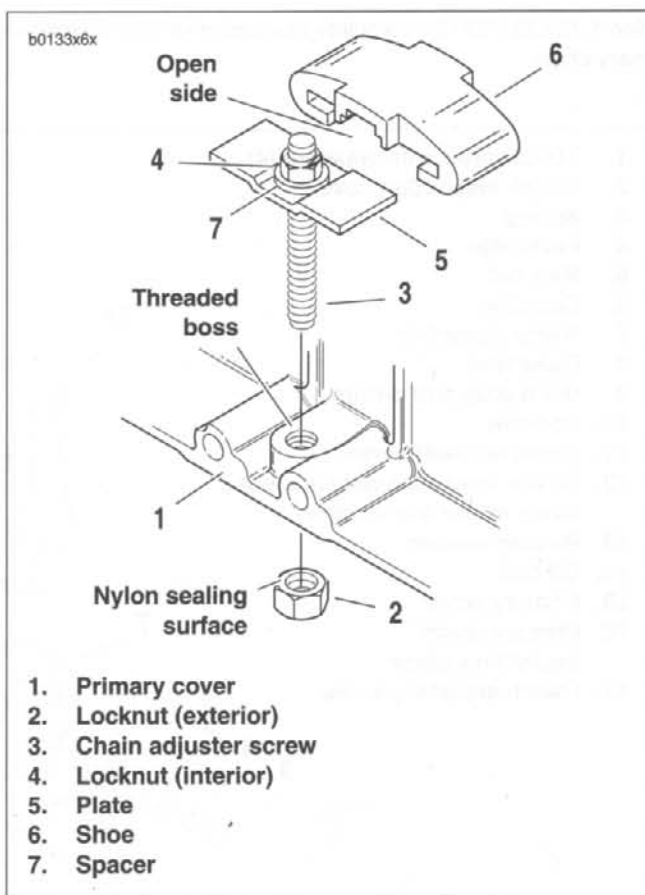

Figure 6-3. Primary Chain Adjuster
1. See Figure 6-3. If shoe (6) is badly worn, replace it or adjust assembly.
2. Install plate (5) over top of chain adjuster screw (3). Place spacer (7) over top of adjuster screw next to plate. Secure plate and spacer to adjuster screw by threading on locknut (4). Tighten locknut to 10-12 ft-lbs (13.6-16.3 Nm).
3. Place plate into slots at open end of shoe (6). Slide shoe over plate until locknut at top end of adjuster screw is against closed (blind) side of shoe.
4. Position adjuster inside primary cover (1) with closed side of shoe against cover. Thread adjuster screw into tapped boss at bottom of primary cover. At outside of cover, install locknut (2) onto adjuster screw with nylon sealing surface toward cover. Tighten to 20-25 ft-lbs (27.1-33.9 Nm).